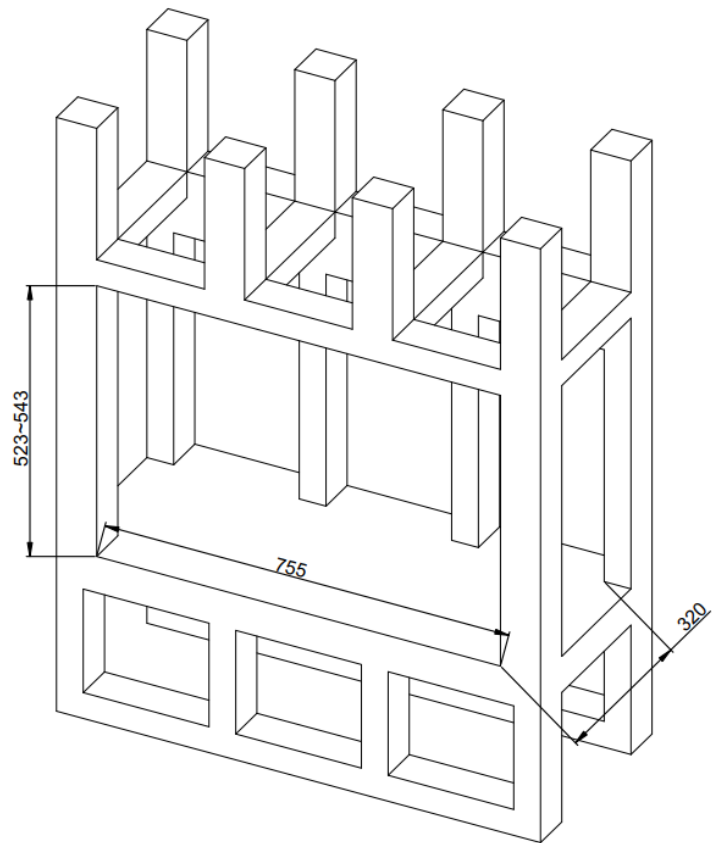

figure 2
- Choose a fireplace location and frame as shown in figure 2.